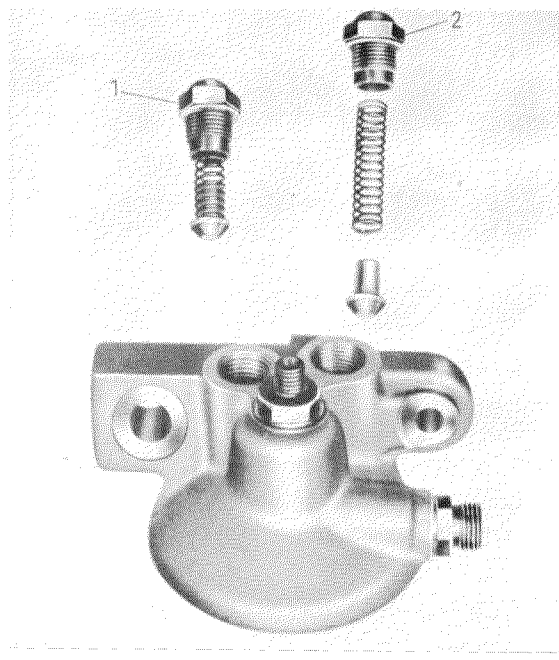

Figure 18-9/7
Install the valve cones (12) and the valve springs (11) in the upper part, then secure the screw plugs (9) with a new sealing ring (10) (see Figure 18-9/5).
2. Put the metal filter element (3) into the filter bowl (2). Then mount the outlet ring (4) on the filter bowl and secure it with the nut (5) (see Figure 18-9/5).
3. Insert the sealing ring (6) in the groove at the filter bowl (2). Only original sealing rings must be used. Then secure the filter bowl (1) to the upper part (7) with the hexagon screw (16). Do not forget the sealing ring (15) between the screw and the filter bowl (see Figure 18-9/5).
Note: Only the hexagon screw (16) with a length of 160 mm and a new sealing ring (15) between the bottom and the fixing screw must be used (see Figure 18-9/5). The passage for the oil pressure gauge line in the adapter (8) can be obstructed if a longer screw is used. The oil pressure gauge will then indicate incorrectly or not at all.
The opening pressure of the relief valve (8) installed in the horizontally arranged oil filter (see Figure 18-9/4) and the relief valve (2) for the metal filter element of the bowl-type filter (see Figure 18-9/7) is $2 \pm 0.2 \text{ kg/cm}^2$ for each of the two filter designs.
The different opening pressures of the relief valves 1 and 2 (see Figure 18-9/7) are obtained in spite of identical parts by means of the different initial tension of the springs.